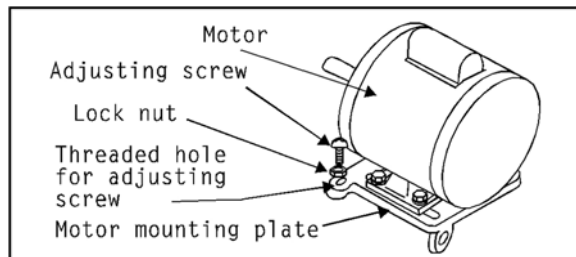

Figure 14: Motor plate adjustment screw
4. To change the belt position (and, therefore, the blade speed) first loosen the motor plate adjustment lock nut. Refer to *Figure 14* for the position of the motor plate adjustment screw and locknut.